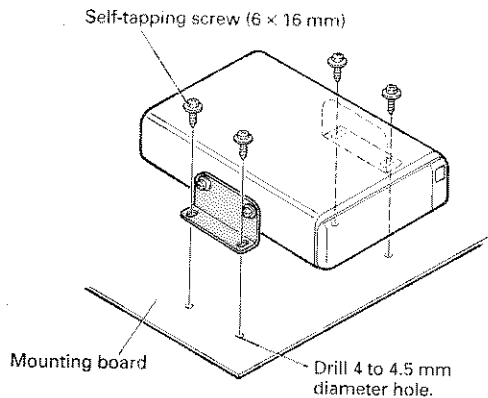

Fig. 7
2. Mount the player on the mounting board with the self-tapping screws (6×16 mm). (Fig. 7)